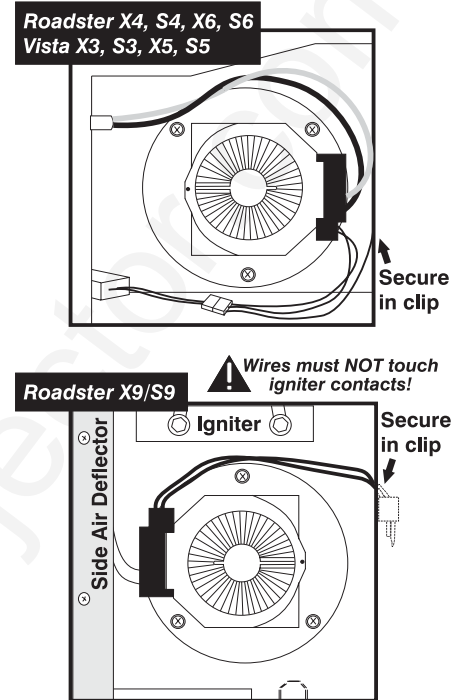

Figure 4.6. Lamp Orientation for Different Models
- Insert the new lamp module into the lamp compartment as shown in Figure 4.6.